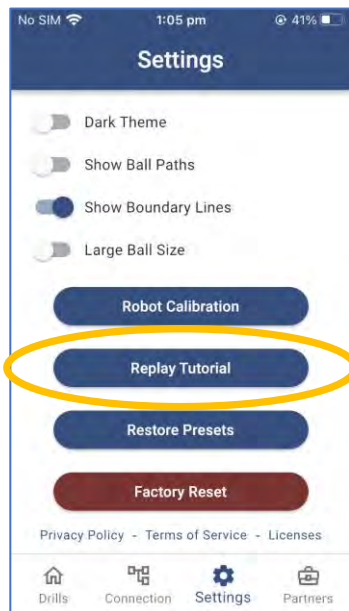

Figure 3-20
3.3.3 Replay Tutorial (Figure 3-20)